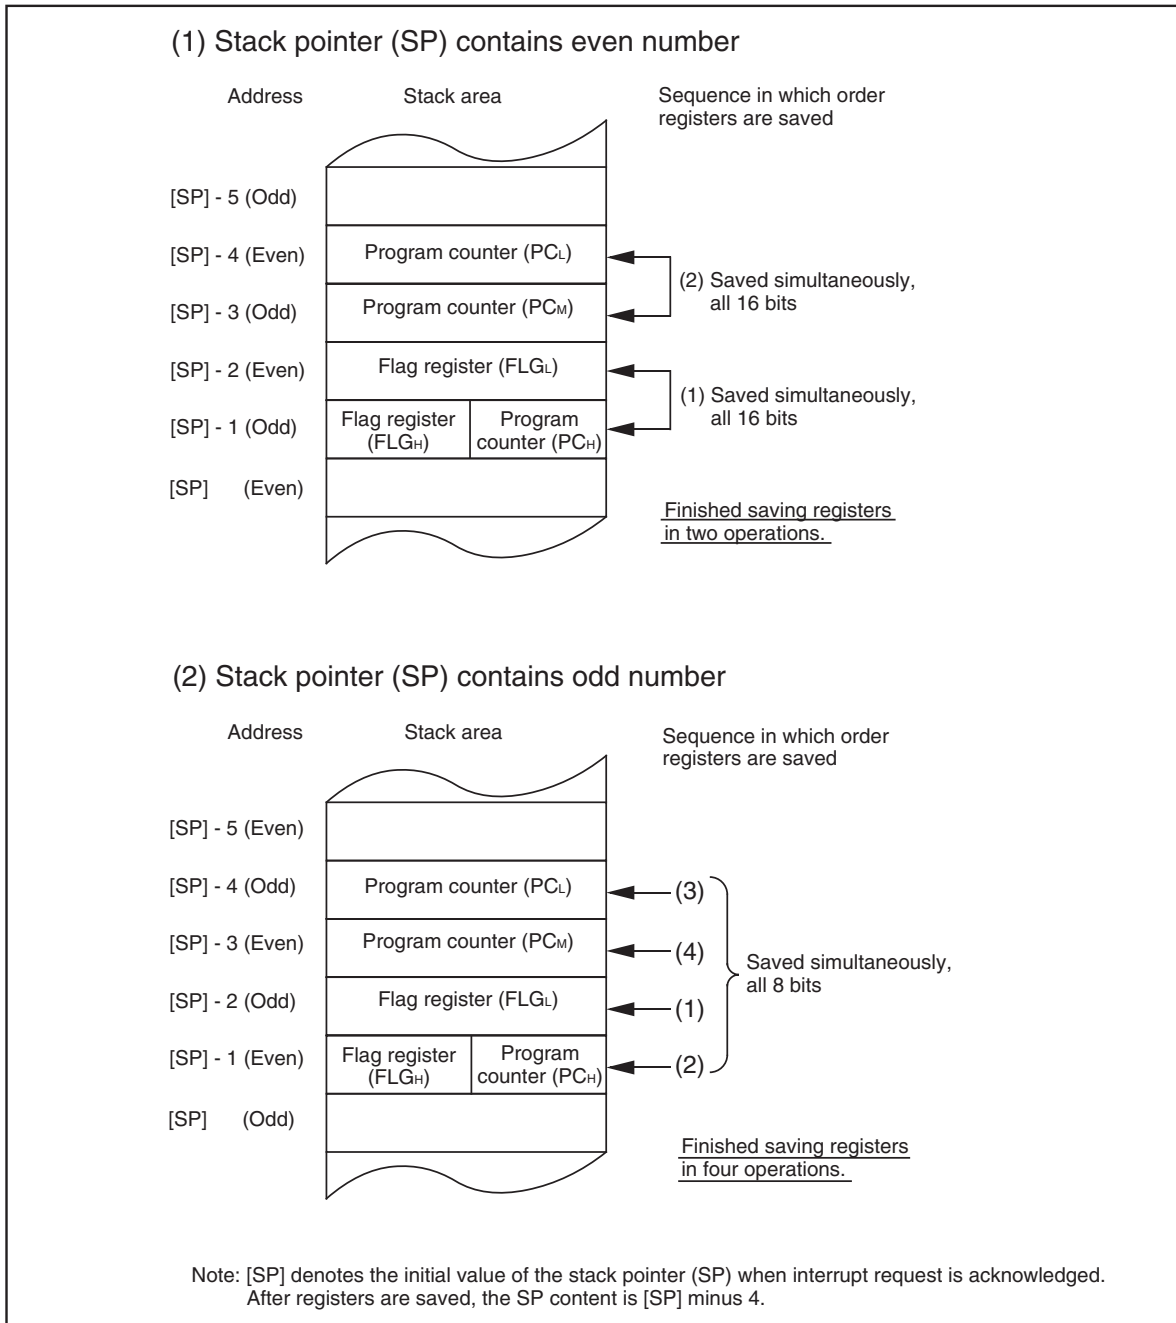

Figure 1.9.7. Operation of saving registers
The operation of saving registers carried out in the interrupt sequence is dependent on whether the content of the stack pointer (Note) , at the time of acceptance of an interrupt request, is even or odd. If the content of the stack pointer (Note) is even, the content of the flag register (FLG) and the content of the program counter (PC) are saved, 16 bits at a time. If odd, their contents are saved in two steps, 8 bits at a time. Figure 1.9.7 shows the operation of the saving registers.